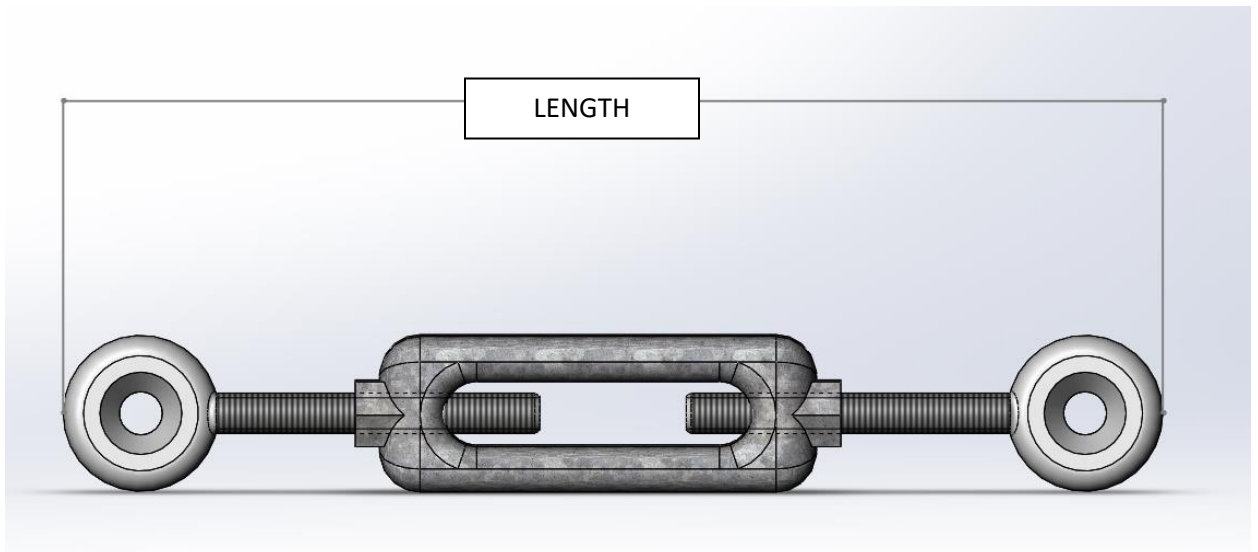

Figure 6
8. Make sure that both speakers have the same angle. You can do this by measuring the overall length of the turnbuckles. When all four are the same, the angles are the same. See *figure 6*.